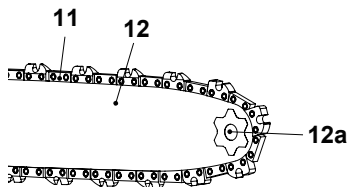

Fig. 4
6. The saw chain movement is as indicated by the arrow. Make sure the saw chain (11) is properly placed over the sprocket wheel (12a) of the guide bar (12) (Fig. 4).